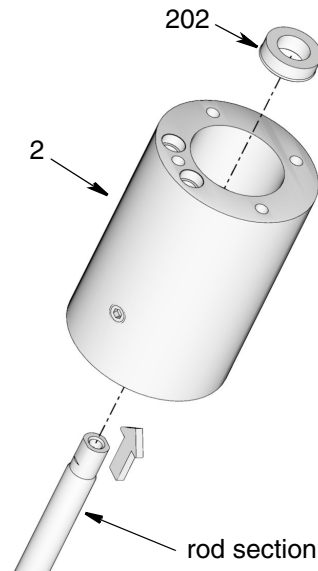

FIG. 33
26. Use one of the rod sections to push the packing u-cup (202) out of the pump adapter (2) in the direction shown in FIG. 33. Discard u-cup (202). A new one is included in the kit.